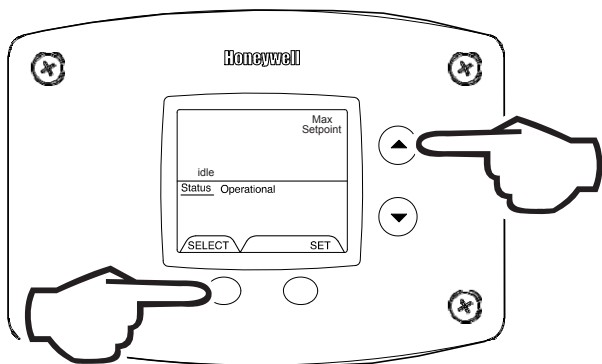

Fig. 44
- 30 Seconds after the last button press, the Water Heater Display will go back to 'User Mode'. It will read 'Max Setpoint' without showing a temperature value if the temperature setpoint is at the maximum setting. The Water Heater Display can be set back to the 'User Mode' immediately by pressing both the 'Temperature Up' and 'Select' buttons together for 3 seconds (Fig. 44).